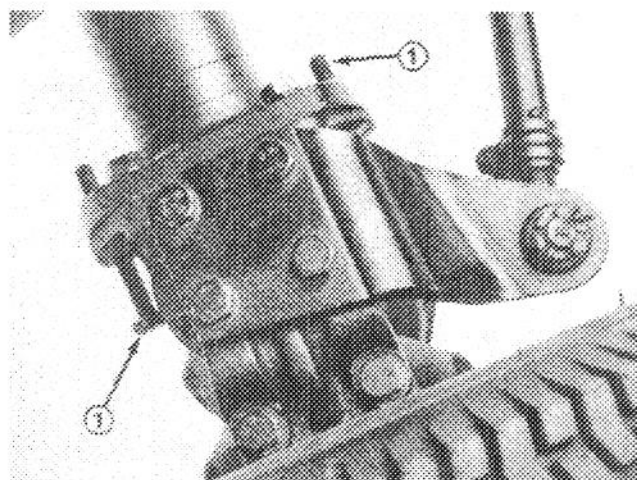

Figure 59
1. Thread bolt in or out until .090" clearance is attained (Fig. 59).